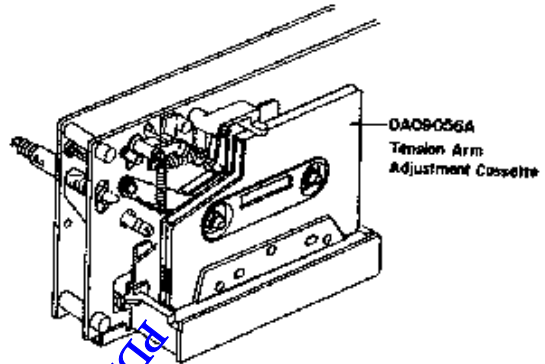
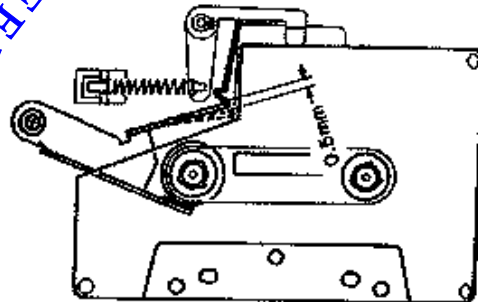

Fig. 4.12
Fig. 4.13
Refer to Figs. 4.12 – 4.14.
- (1) Load a Tension Arm Adjustment Cassette (DA09056A) in the LX-3 referring to Fig. 4.12.
- (2) Set the LX-3 in Play mode.
- (3) Bend the Back Tension Arm with pliers so that the gap between the Cassette Holding Spring assembled on the Head Base Assy and the Back Tension Arm becomes 0.5 mm as shown in Fig. 4.13. Do not bend the top of the Back Tension Arm.
- (4) Load the Back Tension Gauge (DA09055A) in the LX-3.
- (5) Set the LX-3 in Play mode and read the torque value of Back Tension Gauge.